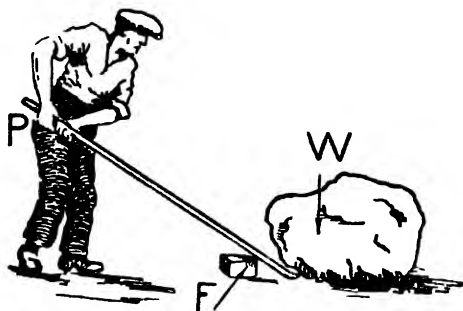

Fig. 76.
1. The lever. A lever is generally a stiff rigid rod. A **crowbar** is one of the simplest of levers. Fig. 76 illustrates a crowbar
Therefore in order to move the stone the man in Fig. 76 would only have to exert a force just a little more than one-tenth the weight of the stone.